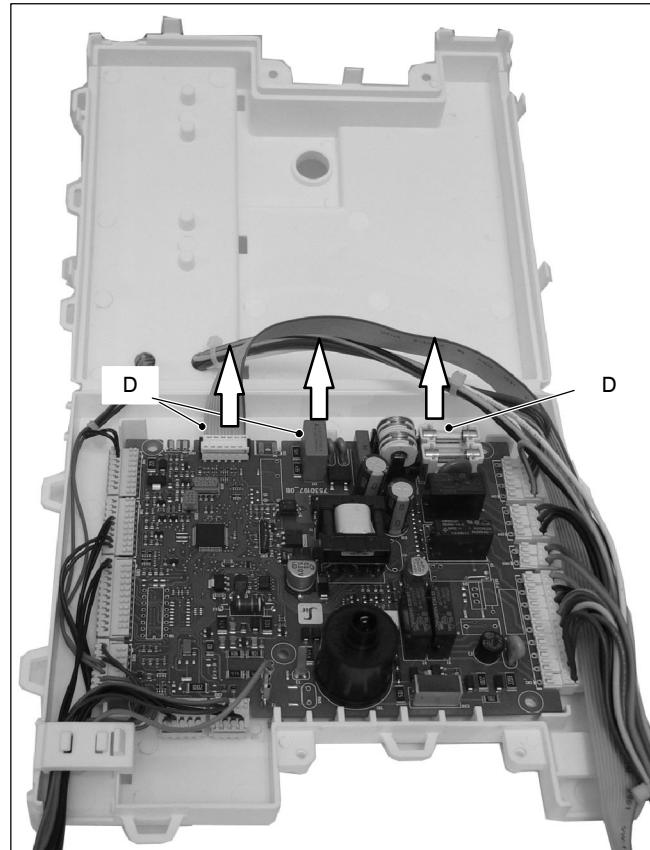

Fig. 9.12
- 4 Delicately flex the hooks *D* in the directions indicated (Fig. 9.12) in order to release the circuit from the box.